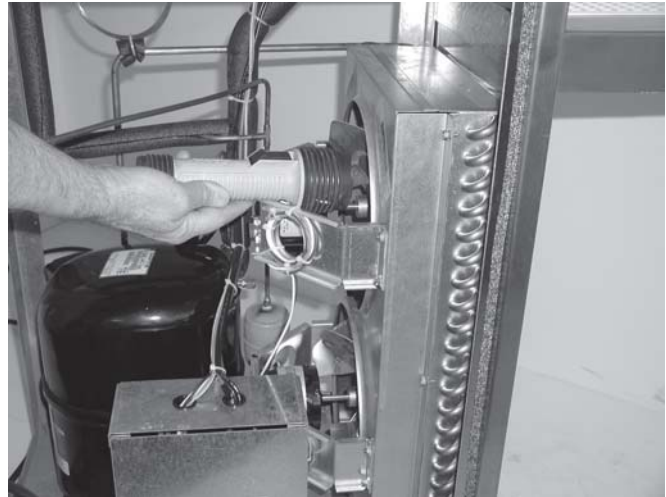

Figure 14. Condenser
3. Visually inspect the condenser for dirt by shining a light through the coil from the back (inside) of the condenser. Figure 14.